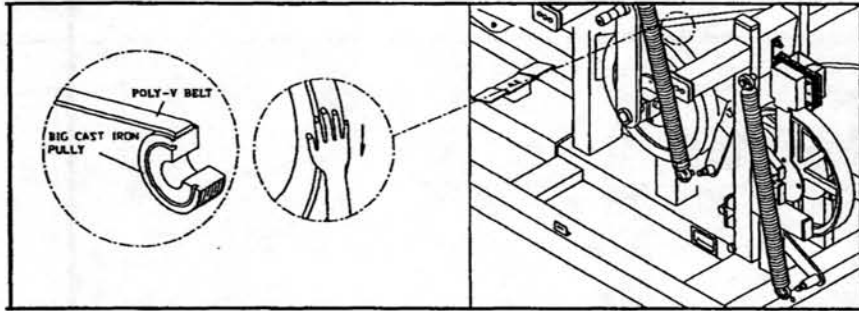

Fig.5-9
4. Check the teeth of Poly V Belt matching into the gear shelf wheel grooves completely. If some teeth of the belt don't match the grooves, adjust it by hand to pull the belt into the corrective position. Turn the PULLEY WHEEL to move the teeth into the grooves completely. (see fig.5-9).